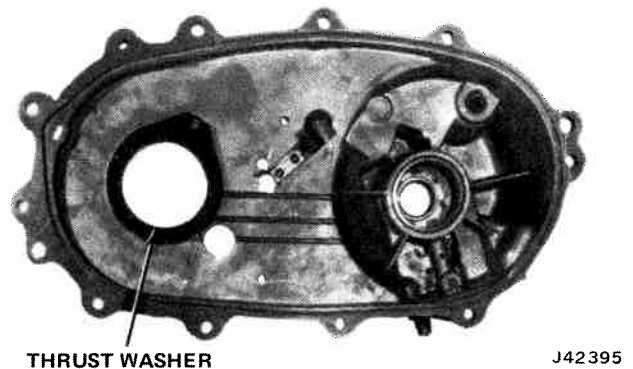

Fig. 8-44 Drive Sprocket Thrust Washer in Position on Case Cover
(4) Insert rear output shaft into differential.
(5) Shift lockup hub rearward in case cover. Lubricate drive sprocket thrust washer and stick it in position on case cover (fig. 8-44).